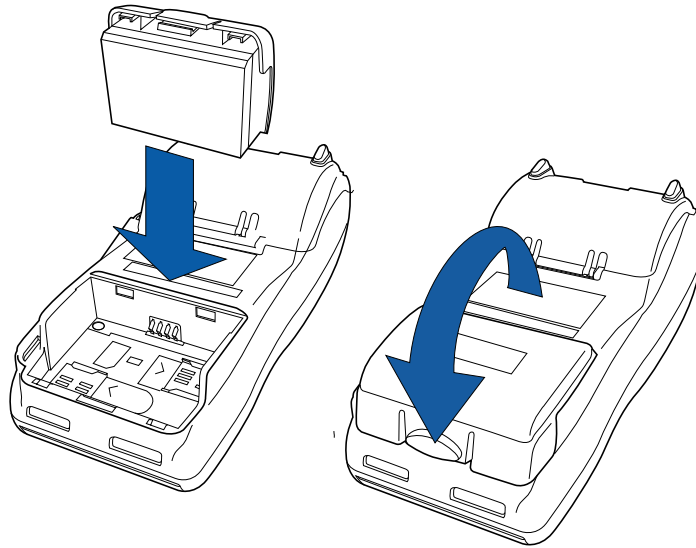

Figure 24 Installing the Smart Battery
- 6 Install the battery (see Figure 24).
The VX 680 smart battery fits in a slot on the back of the VX 680 terminal, as shown in Figure 24. The locking tab clicks when the battery is in place. The slot is keyed, so that there is only one way to insert the battery.